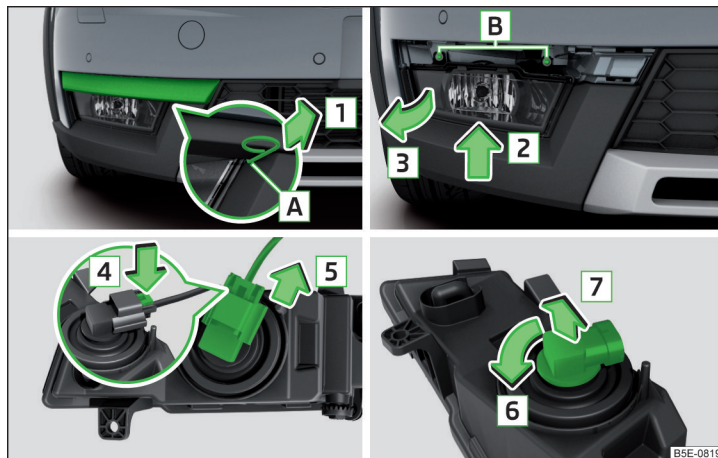

Fig. 359 Remove the fog lamp / bulb change - variant 2
› Fig. 359.
- › Replace the fog light by inserting it in the opposite direction of the arrow **3** » Fig. 359 and tighten.
- › Fig. 359 and tighten.